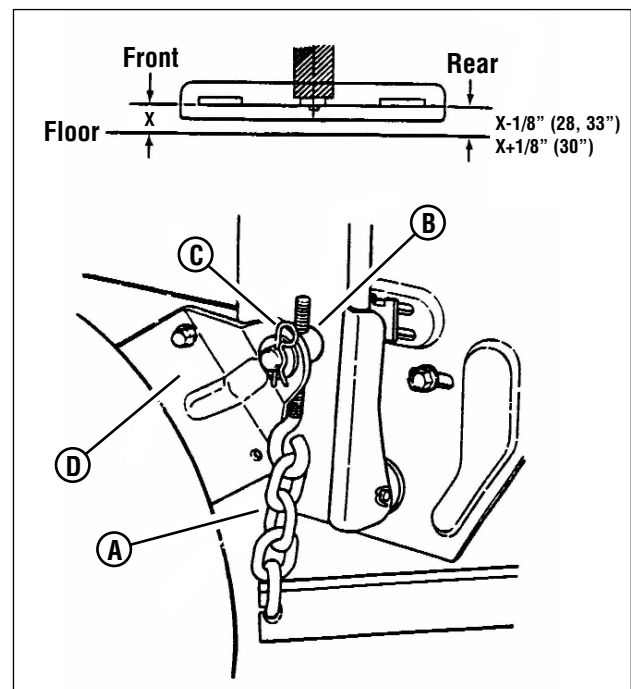

Figure 34: Adjusting the mower deck (front-to-rear)
4. Remove the rear hanger chains (**A**, **Figure 34**) and allow rear center of the deck to rest on the angle iron.
9. Readjust the rear hanger chain pivots (**B**, **Figure 34**) to align with the holes in the support brackets (**D**).
With the Rear Engine Rider on a smooth, level surface, rotate the blade until the blade tips are at the front and rear of the deck. Measure the distance from the blade tips to the floor (**Figure 34**). The distance should be the same, or the rear 1/8" to 1/4" lower than the front. If the rear blade tip is higher than the front, or is more than 1/4" lower than the front, proceed with adjustment.
With the Rear Engine Rider on a smooth, level surface, rotate the blade until the blade tips are at the front and rear of the deck. Measure the distance from the blade tips to the floor (**Figure 34**). The distance should be the same, or the rear 1/8" to 1/4" higher than the front. If the rear blade tip is lower than the front, or is more than 1/4" higher than the front, proceed with adjustment.
1. Remove the rear hanger chains (**A**, **Figure 34**).